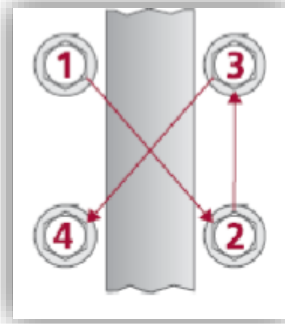

Figure 2.2
- 2) Tighten the U-bolt nuts to 400 ft. lbs in the crisscross torque pattern shown in Figure 2.2
- 4) Perform a final tightening of the U-bolt nuts to the final torque of 400 ft. lbs. following the crisscross pattern again, shown in Figure 2.2.